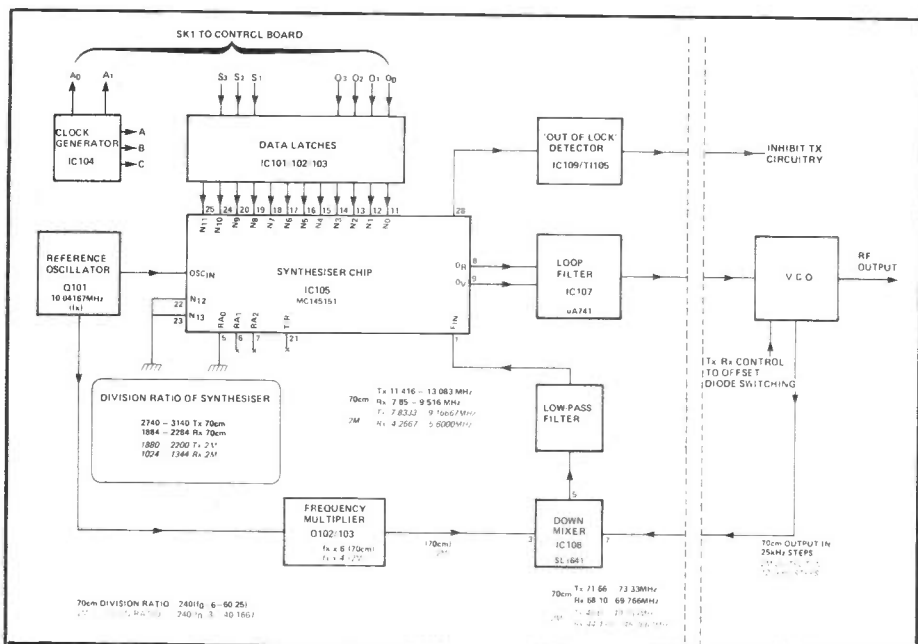

Figure 2: Block diagram of the Synthesiser/Mixer (both versions).
4. Reference to Fig. 2 has been omitted from the text on p.47, though it should be clear where these omissions have occurred